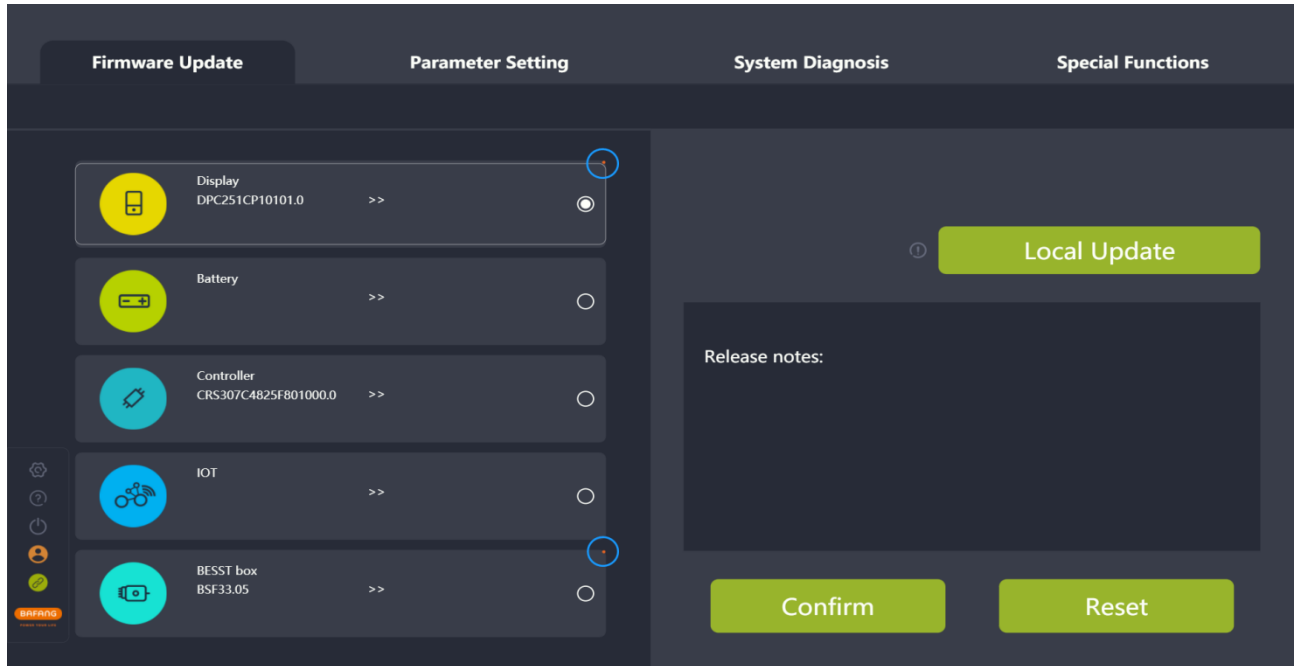

Fig. 3-3 Part inspection
- (3) BESST Box and computer connection status icon: green: successful connection; orange: disconnection;
- (4) Login status icon: Orange: offline login; Green: online login;
- (5) Orange dot in the upper right corner of the component: It indicates that the product is not certified and BESST PRO software is not guaranteed to be fully compatible. The absence of the orange dot indicates that the product is certified and can be used normally on BESST Pro (Fig. 3-3).